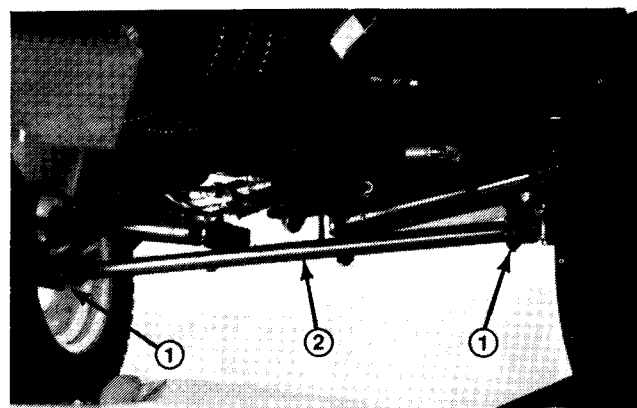

Figure 12
3. If adjustment is required, loosen tie rod clamps (Fig. 12).